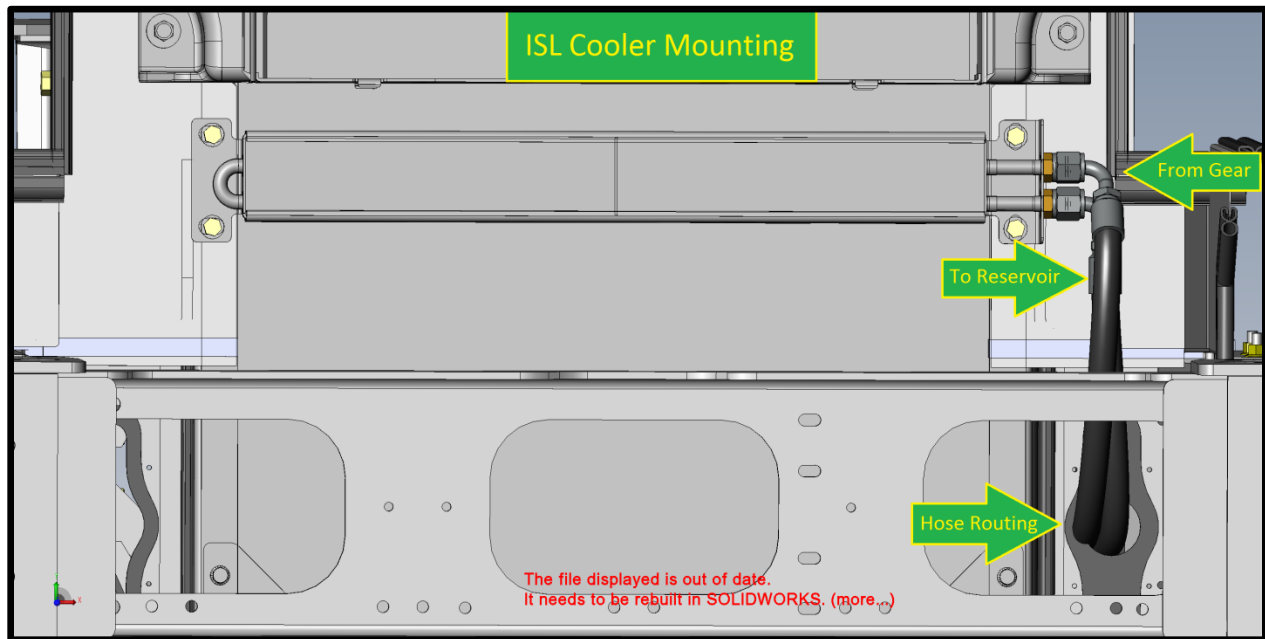

FIG. 3-1 - ISL Cooler Install
4. Install provided cooler and hardware to front of radiator, apply blue Loctite (removable thread locker) to all bolts, and torque 3/8" fasteners to 27 ft.-lbs. Refer to FIG. 3-1 through 4-1 depending on engine type.